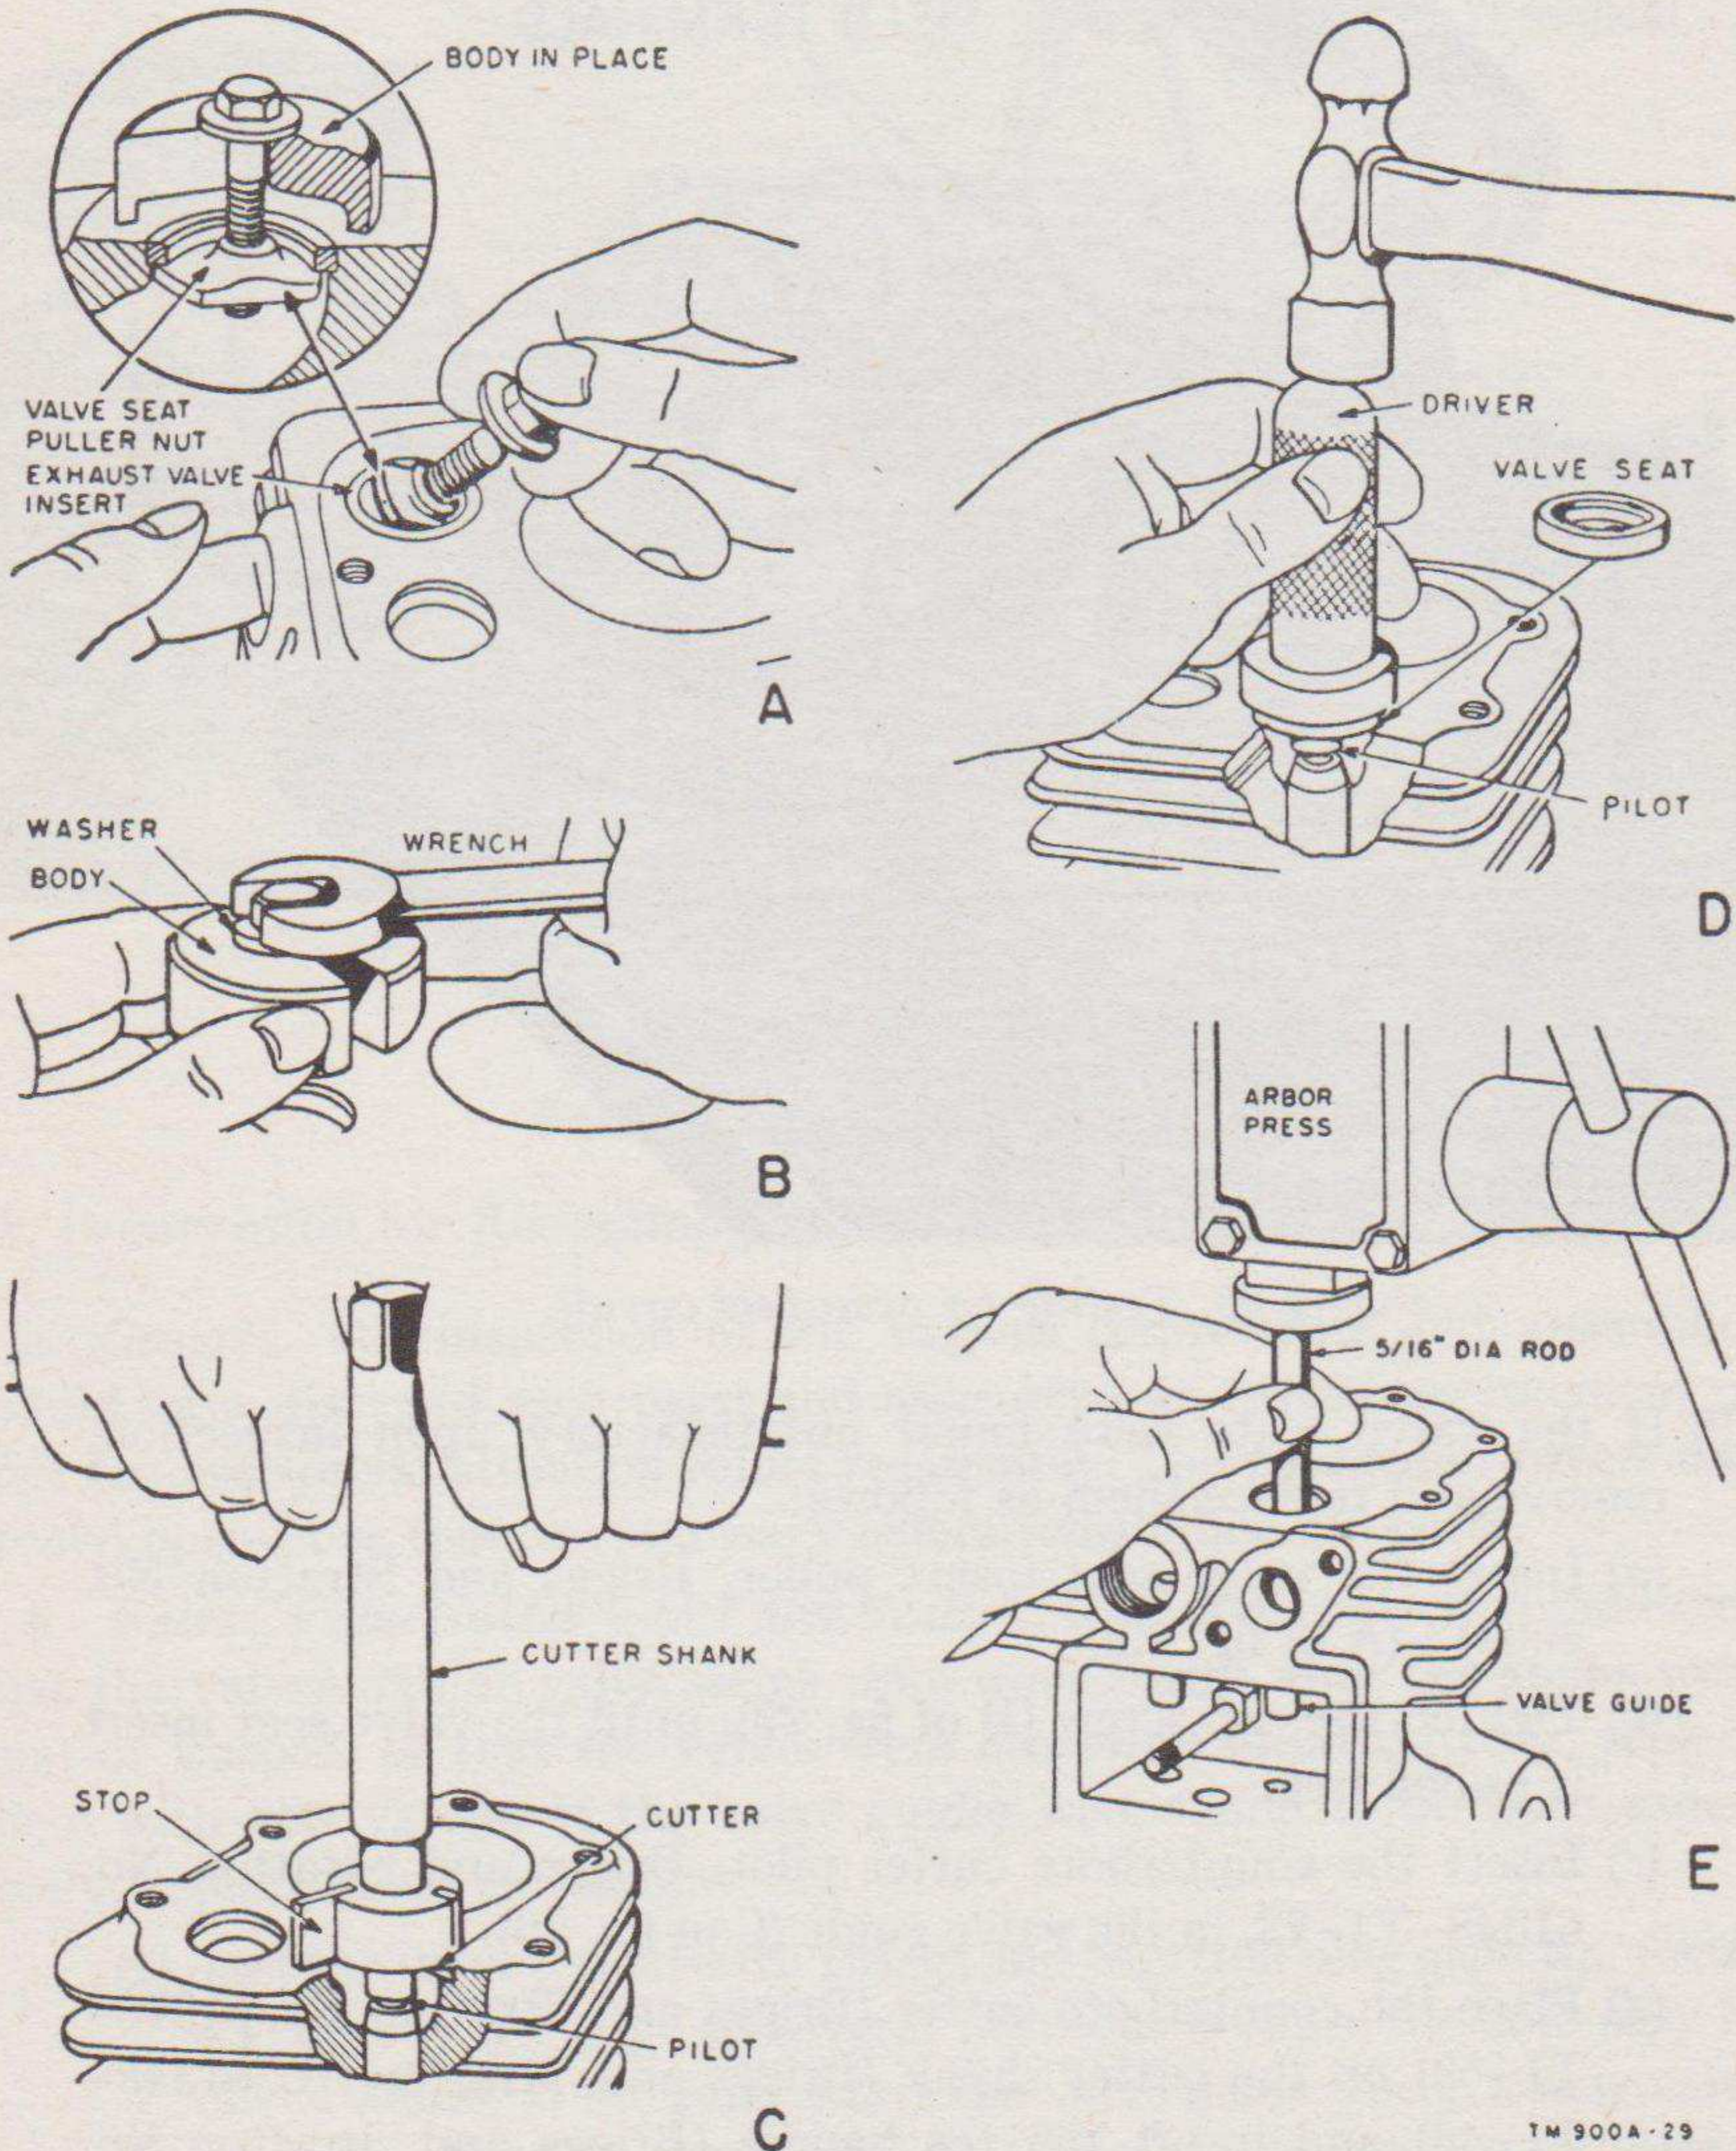

Figure 29. Replacing valve seat insert and valve guide.
Signal Corps stock No. 3H2485-10. Use a piece of $\frac{5}{16}$ -inch rod and an arbor press and press the old guide about $\frac{1}{2}$ way out. Break off the exposed portion of the guide and then push the remaining portion of the guide out of the cylinder block (E of fig. 29).
- (3) If the valve seats were found unsatisfactory upon inspection, remove and replace them as follows:
- (a) Insert the valve seat insert puller, Briggs and Stratton No. 290914 (A of fig. 29).
- (b) Tighten the cap screw (B of fig. 29), until the valve seat insert is pulled free.
- (c) Insert the counterbore cutter pilot, Briggs and Stratton No. 61348-T1-23, in the valve guide (C of fig. 29).
hand, until the stop on the cutter touches the top of the cylinder (C of fig. 29). *Be careful not to force the cutter to one side as this will cause it to cut oversize.*
(e) Remove the cutter and pilot. Place the new valve seat insert in the recess and replace the pilot in the valve guide. Use the driver (Briggs and Stratton No. 61348-T1-122) and drive the insert into place (D of fig. 29).